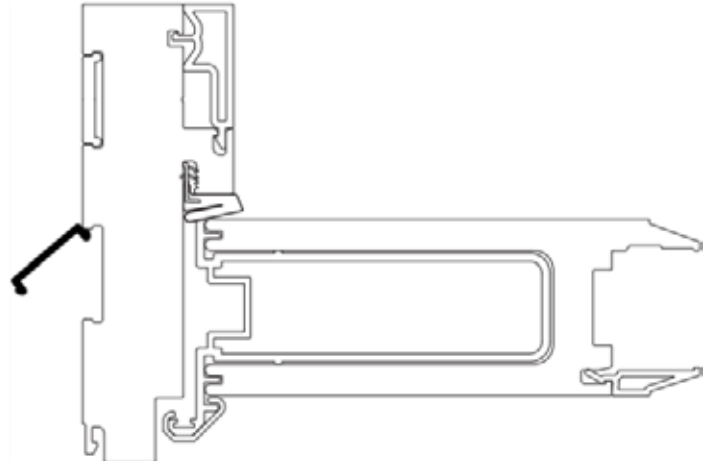

Figure 9
2. Locate the black lock cover and install it into the extruded channel on the lock jamb (Figure 9). Once installed, the lock cover will extend the entire length of the jamb, completely covering all lock holes.